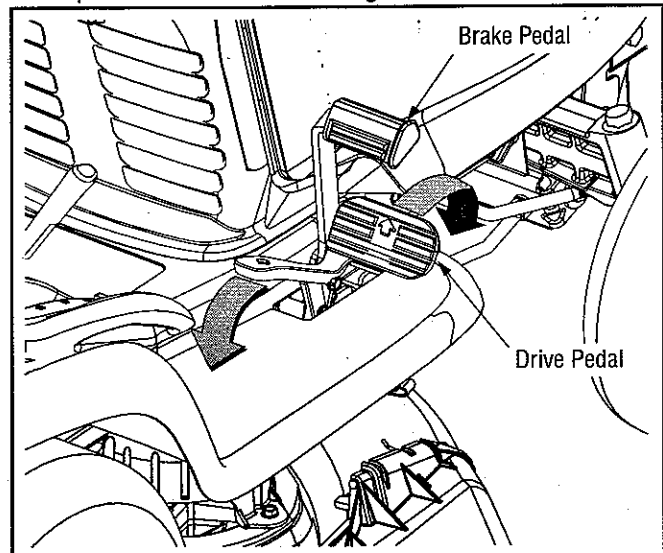

Figure 11
- To travel **FORWARD**, slowly press the upper portion of the drive pedal forward until the desired speed is achieved. See Figure 11.
- To travel in **REVERSE**, check that the area behind is clear then slowly press the lower portion of the drive pedal with the ball of your foot (NOT your heel) until the desired speed is achieved. See Figure 11.